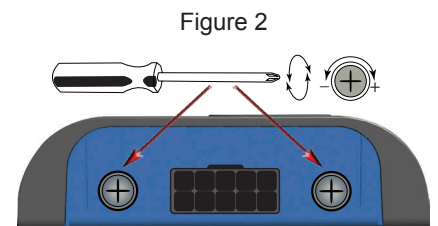

Figure 2
4. Slowly adjust level on LP5-4 until you reach the target voltage of the amplifier. (figure 2)
3. Slowly adjust front channel gain of LP5-4 until just a hint of distortion is audible, and then back down gain just under that threshold and the distortion goes away. (figure 2)